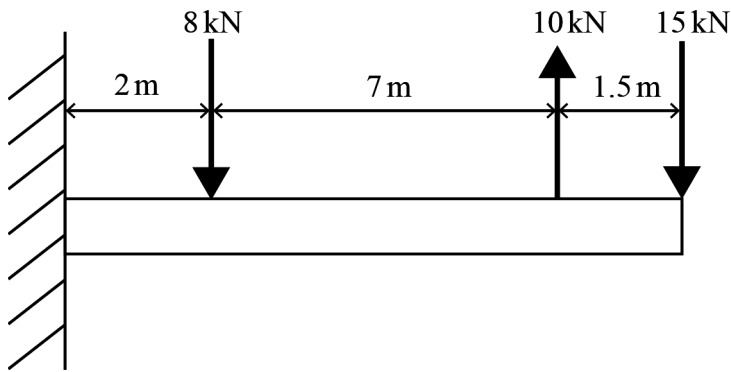

Fig. 4
- 6 (a) **Fig. 4** shows a cantilever beam subjected to three point loads of 8 kN, 10 kN, and 15 kN. The beam has a self-weight of 300 N m^{-1} .